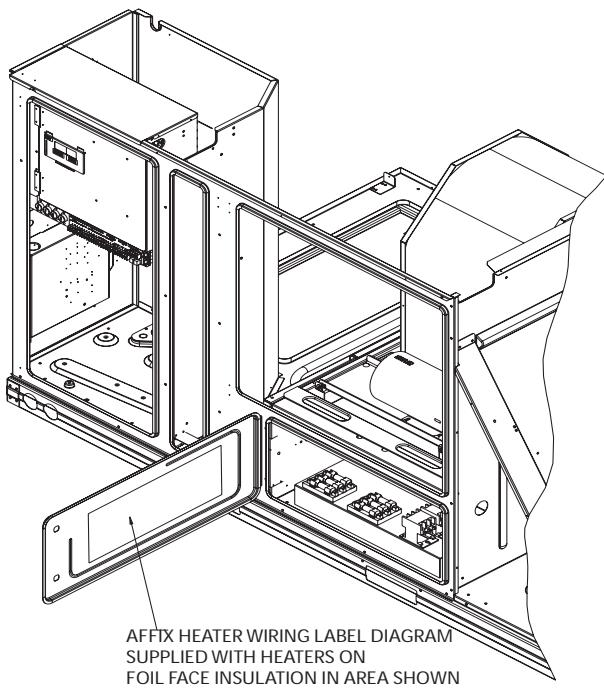

**Fig. 3 — Electric Heater Installation**
7. Slide heater module into heater compartment by aligning the heater frame with the heater opening. Do NOT handle heater assembly by the heating coils. Handle by sheet metal panel only. (See Fig. 3.)
8. Secure electric heater to unit using screws from item 6. Heater will attach to the block off plate screw holes.
9. Route heater power wires to the left through the foam bushing and to the single point power connection box in the compressor section. (See Fig. 3 and 4.)
12. Set the manual reset limit switch on the fan housing by pressing the button located between the terminals on the switch. (See Fig. 3.)
1. Remove single point box access panel located on the end of the unit. Save panel and screws. (See Fig. 3.)